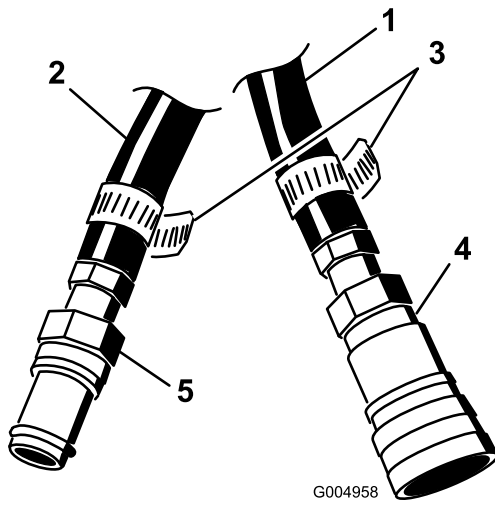

Figure 12
5. Insert the barb end of a nipple coupler into the pressure hose and secure with a hose clamp (Figure 12).
- 6. Insert the barb end of a quick disconnect coupler into the return hose and secure with a hose clamp (Figure 12).